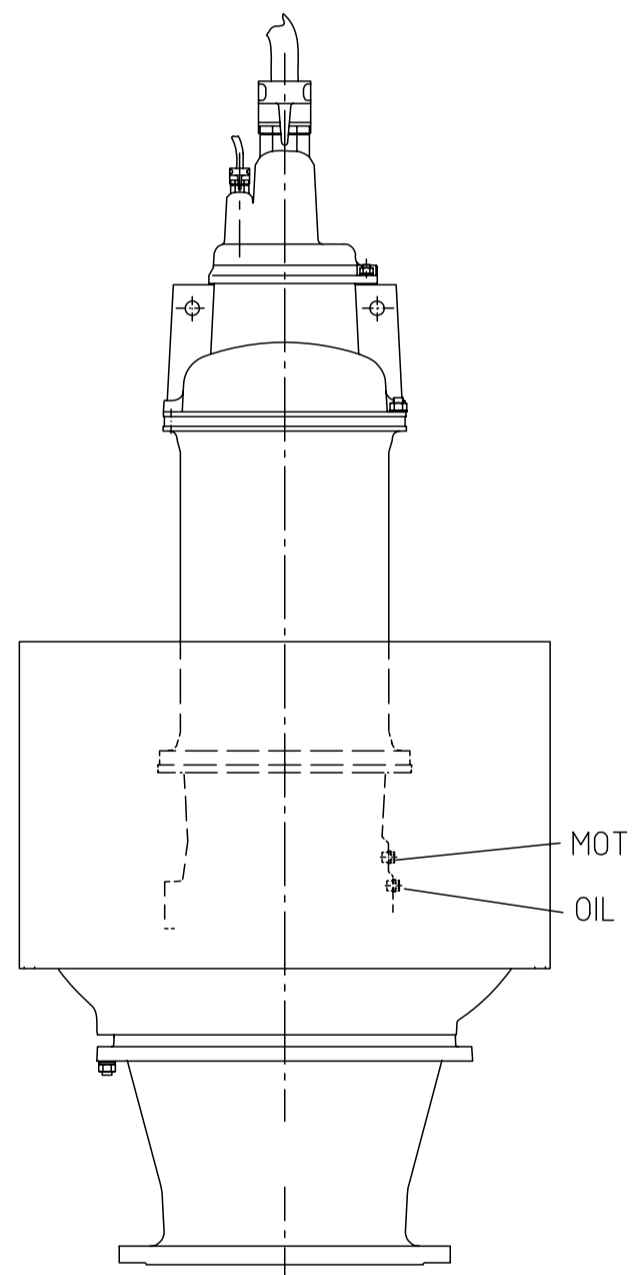

Fig. 5
**KEY FOR SYMBOLS ON FIG. 5:**
Stand pump vertically on its suction flange. Remove screw plug "MOT" (Fig. 5) with copper washer (536) so that any liquid can run out. Do the following repairs according to what comes out of the motor housings:
Connect source of dry air (from air compressor or bicycle hand pump) to opening left by removal of plug "MOT" (Fig. 5). Air pressure should be a maximum of 0.5 bar (7 psi). Motor should then be totally submerged in a test tank.